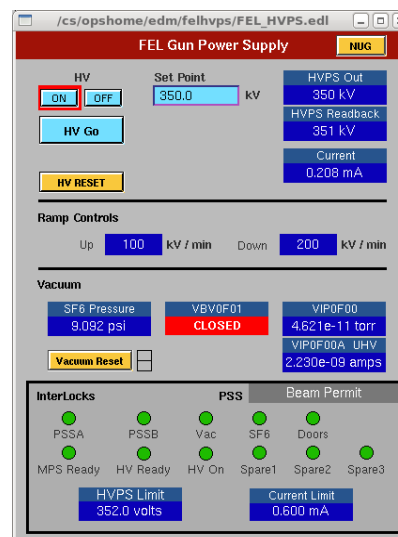

Figure 1: FEL Gun Power Supply Screen
2. Open the *FEL Gun Power Supply* screen (FEL Main Menu⇒High Voltage⇒High Voltage Power Supply Control; see Figure 1, to the right).